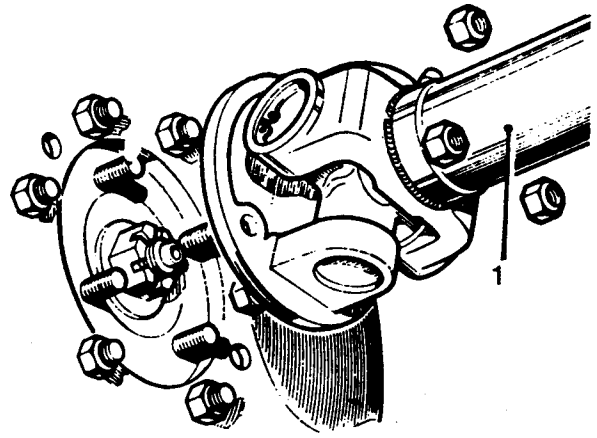

Fig H1.12
- (11) Refer to Fig H1.12. Refit the rear propeller shaft (1).
- (12) Refill the gearbox with the correct grade of lubricating oil (see Sub-section H1.5).
- (13) Replace the floor tunnel (see Sub-section M3, Chapter 5).